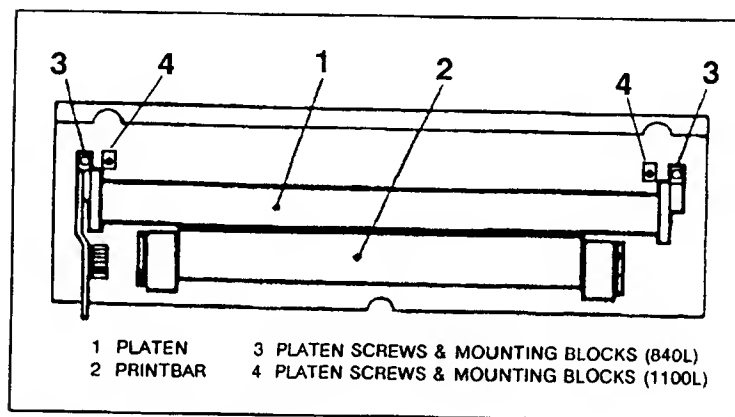

Figure 6-17. Platen Assembly
- d. Using a 3mm hexagonal driver (allen wrench), remove the two screws (one at each end of the platen) which secure the platen mounting feet to the print mechanism for the 840L model (see Figure 6-17). For 1100L models, the mounting feet are located on the support blocks.